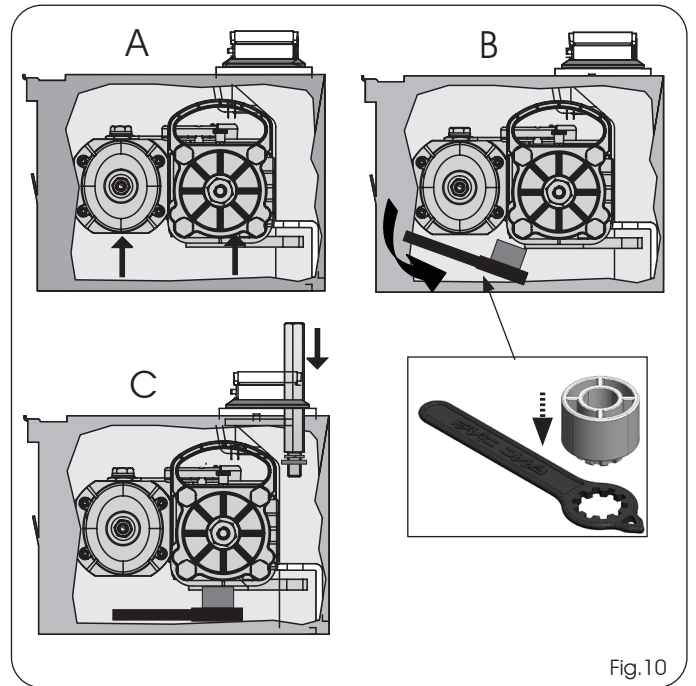
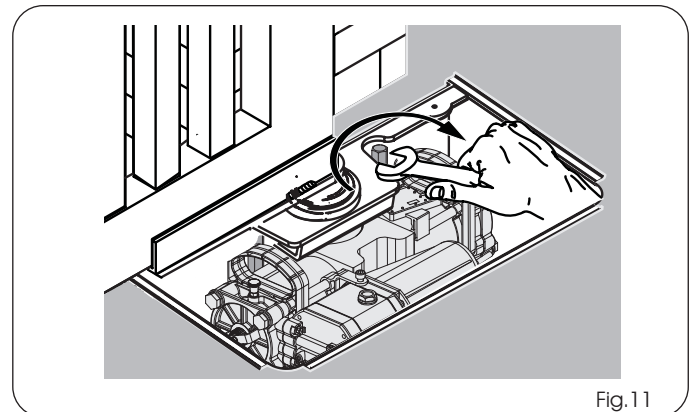

Fig.10
Fig.11
9) Raise the operator with its handles (Fig.10 ref. A), inserting the pinion in the splined collar of the load bearing box. To facilitate the operation, slightly wiggle the operator until coupling takes place.
10) Place the supplied plastic wrench with the spacer under the operator, as shown in figure 10 ref. B, C
12) Insert and tighten the fastening long bolts with the supplied lockwasher as shown in Fig. 10 ref. C, in order to secure the operator to the load bearing box as shown in Fig. 11.